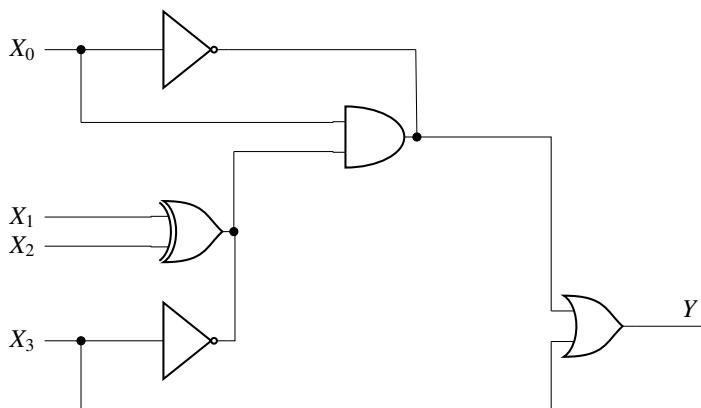

Fig. 3.36
54. The logic gates shown in the digital circuit below in Fig. 3.36 use strong pull-down nMOS transistors for LOW logic level at the outputs. When the pull-downs are off, high -value resistors set the output logic levels to HIGH (i.e. the pull-ups are weak). Note that some nodes are intentionally shorted to implement “wierd logic”. Such shorted nodes will be HIGH only if the outputs of all the gates whose outputs are shorted are HIGH.